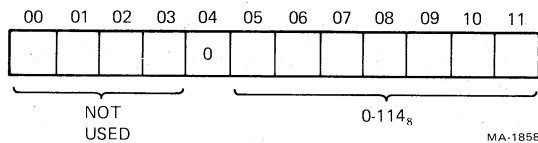

Figure 4-6 RX2TA Format (RX8E/RX28)
4.1.3.3 RX2TA – RX Track Address (Figure 4-6) – This register is loaded to indicate on which of the 77 (0-76) tracks a given function is to operate. It can be addressed only under the protocol of the function in progress (Paragraph 4.1.4). Bits 0-3 are unused and are ignored by the control.